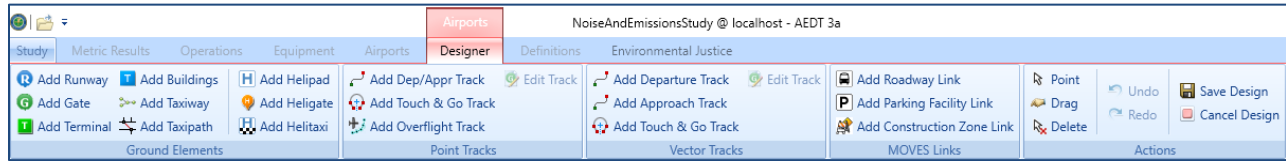

Figure 8. Airports Designer Tab
1. Select the *Designer* tab (Figure 8). AEDT will load all of the airport layout features.
1. In the *Point Track* ribbon group, click *Add Dep/App Track* (Figure 8). A pencil icon replaces your mouse cursor.